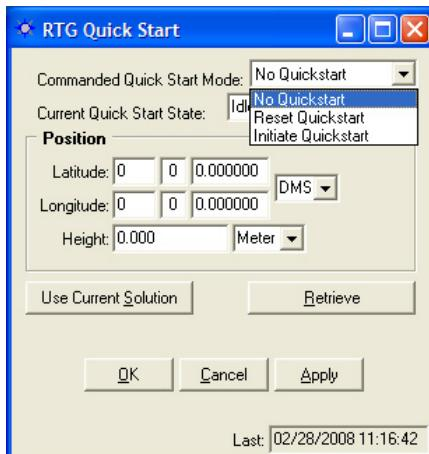

Figure 74: RTG Quick Start Window
- ✓ Select *Receiver > Setup > StarFire™ > QuickStart* to initiate, reset, or turn off this startup mode. The *RTG QuickStart* window opens (see Figure 74).
Refer to Figure 74 for the options below: